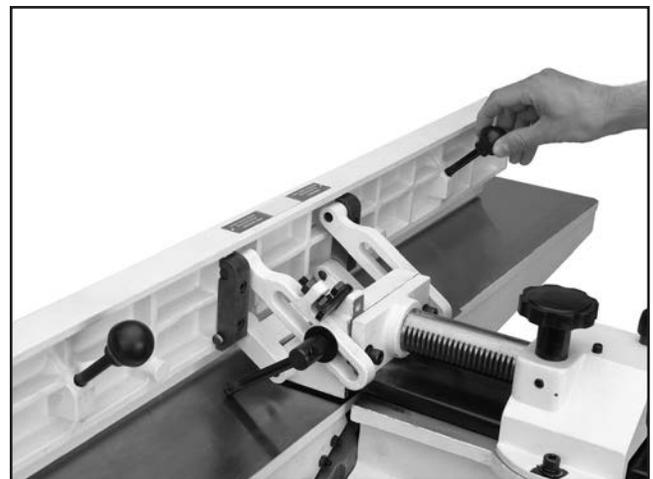

Figure 21. Installing fence tilting handles.
2. Thread the fence tilting handles into the fence (see **Figure 21**).